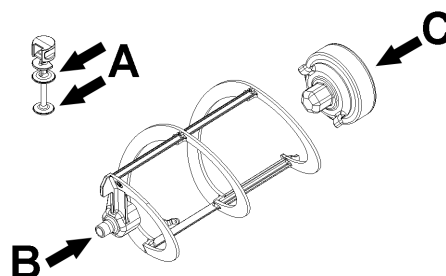
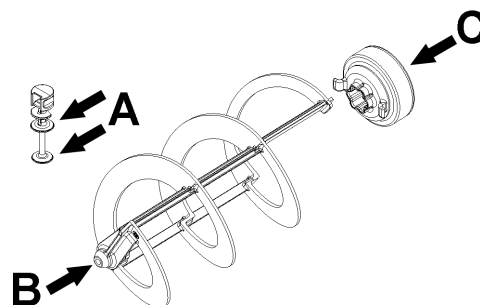

figure 19
figure 20
- 2** Lubricate the tap piston, the hexagonal joint and the mixer at the points indicated in figure 19 (NG6) or figure 20 (NG10), using only the grease that came with the machine or other grease for use with food.